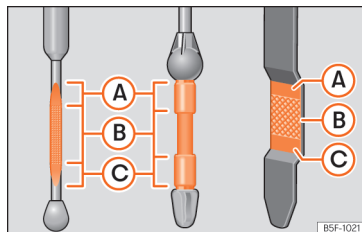

Fig. 304 Engine oil dipstick.
- Then pull it out once more and check the oil level »» Fig. 304. Top up with engine oil if necessary.
If the oil level is above area »» **Fig. 304 A**, do not start the engine. This could result in damage to the engine and catalytic converter. Contact a specialised workshop.
The oil level must never be above zone »» **Fig. 304 A**. Otherwise oil can be drawn in through the crankcase breather and leak into the atmosphere via the exhaust system.